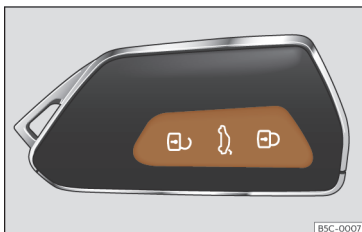

Fig. 73 Remote control key: keys.
- Lock: press the button >>> **Fig. 73**.